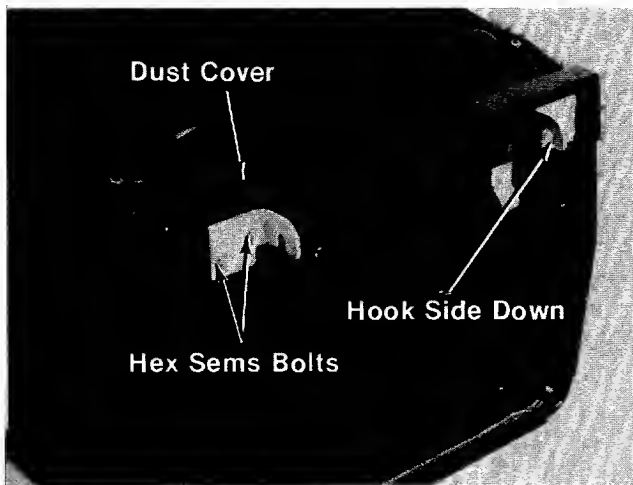

FIGURE 25.
7. Place dust cover (Z) in position on top front of catcher. Place right and left hand hinges (U) in position and secure with hex sems bolts (R), lock washers (S) and hex nuts (T). See figure 25.